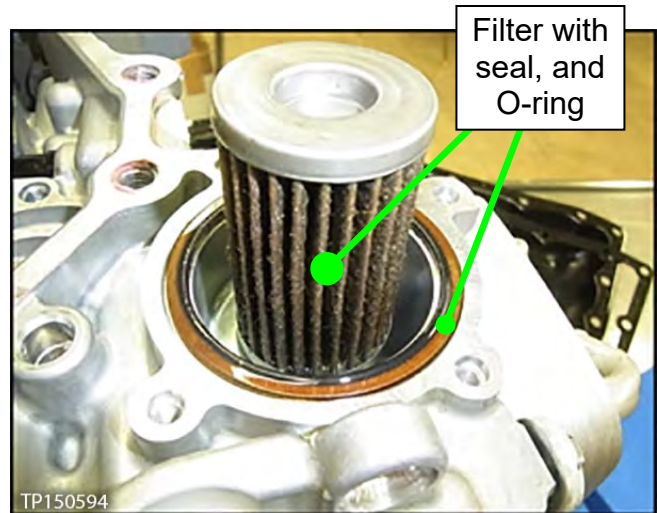

Figure 84
1. Install a new filter with grommet seal and new O-ring (see Figure 84).